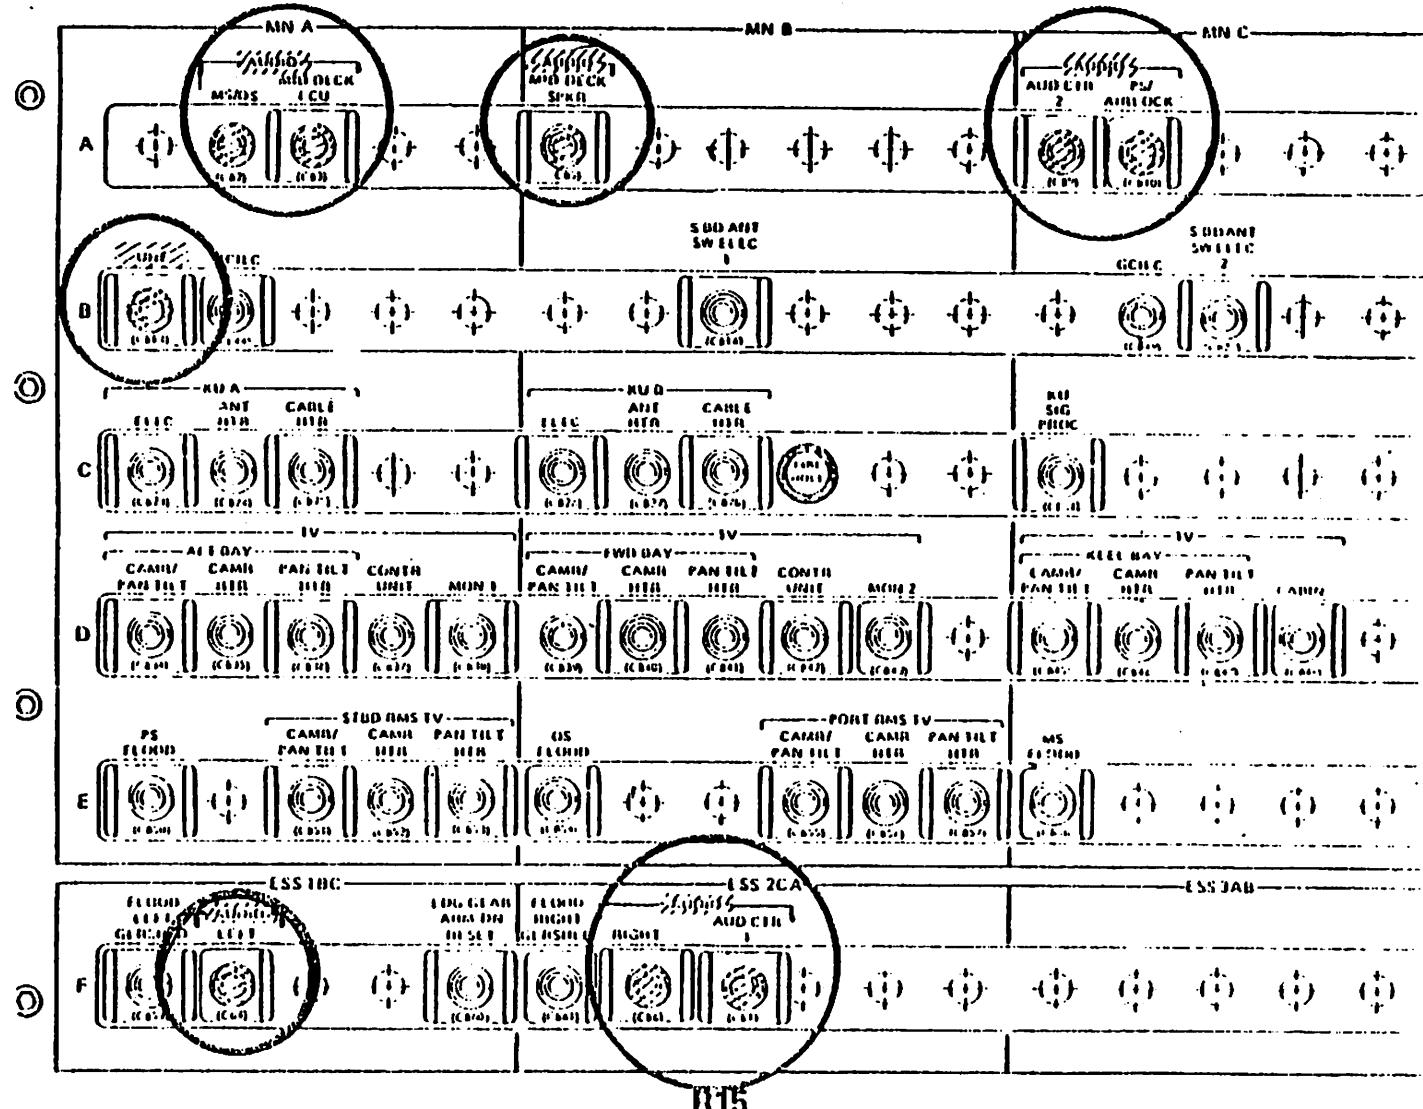

Figure 3-13.- ADS circuit breakers.
3.1.9 Circuit Breakers.- The circuit breaker panel, located at lower MS, contains pull-type circuit breakers for all audio system components (Figure 3-13). The MS/OS ATU's and the PS/airlock ATU's are each controlled by a single breaker. The ACCU power CB's are labeled AUD CTR 1 and AUD CTR 2. The AUD CTR 1 CB controls ESS 2CA (primary) power to the 1 position of the AUDIO center switch on the center console. The AUD CTR 2 C3 controls MN C (secondary) power to the 2 position of the AUDIO CENTER switch.